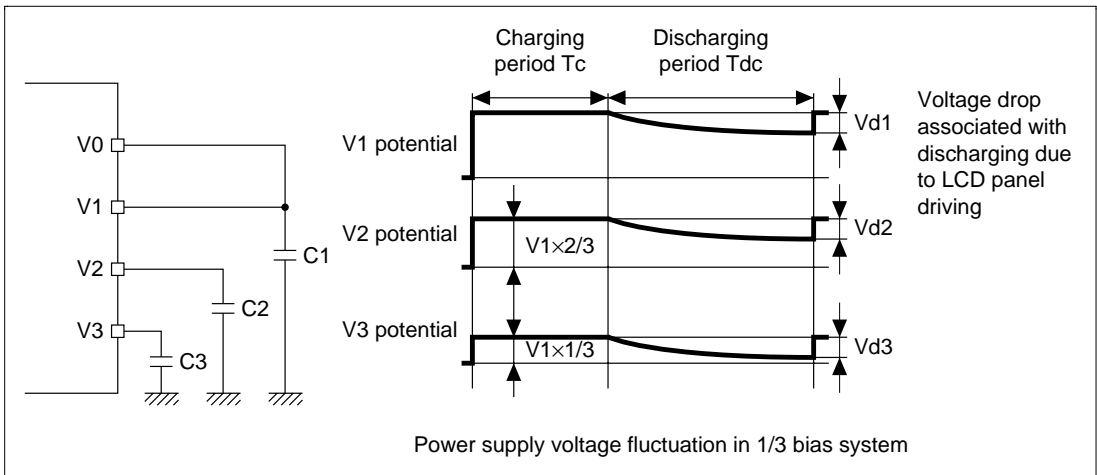

Figure 13-14 Example of Low-Power-Consumption LCD Drive Operation
1. Capacitors are connected as external circuits to LCD power supply pins V1, V2, and V3, as shown in figure 13-14.
2. The capacitors connected to V1, V2, and V3 are repeatedly charged and discharged in the cycle shown in figure 13-14, maintaining the potentials.
1. During charging period T_c in the figure, the potential is divided among pins V1, V2, and V3 by the built-in split-resistance (the potential of V2 being 2/3 that of V1, and that of V3 being 1/3 that of V1), as shown in figure 13-14, and external capacitors C1, C2, and C3 are charged. The LCD panel is continues to be driven during this time.
4. In this way, the capacitors connected to V1, V2, and V3 are repeatedly charged and discharged in the cycle shown in figure 13-14, maintaining the potentials and continuously driving the LCD panel.